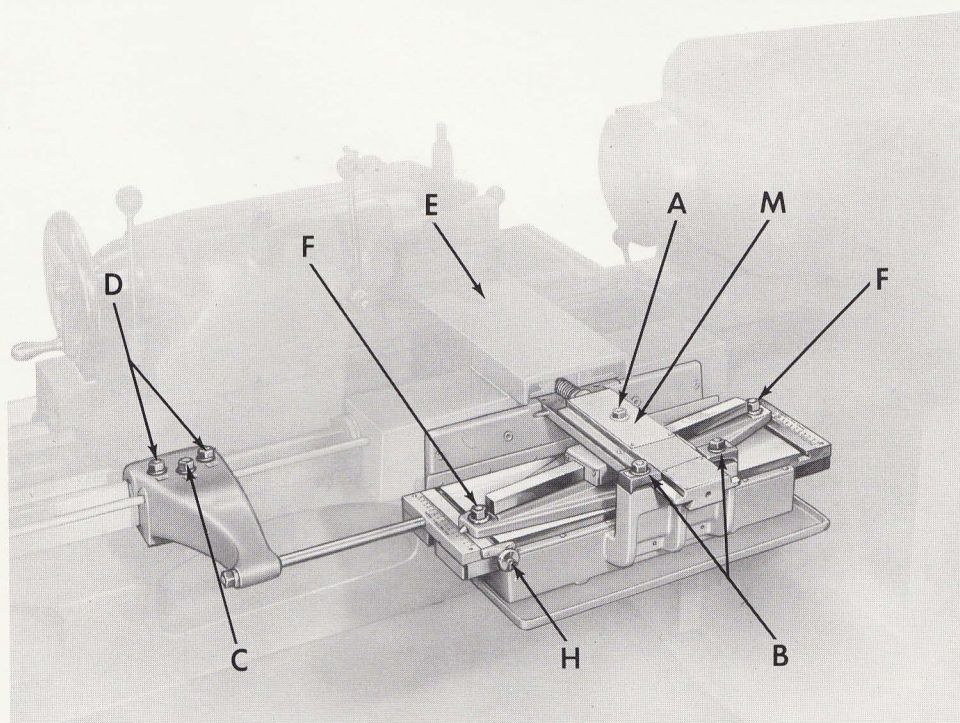

Figure No. 13—View of Plain Bearing Taper Attachment with guards removed
On carriages without taper attachment, when backlash develops because of end play in the anti-friction thrust bearings on the screw, tighten the round nut "A" at the front end of the screw. On carriages with the taper attachment, unscrew the square plate "M", figure No. 13, directly over the back end of the screw, loosen two small set-screws in round nut, and adjust nut until end play is removed.
**TAPER ATTACHMENT**—Either the plain bearing or the ball bearing taper attachment, Figure No. 13 is easily and quickly set up for action. For chasing tapered threads set up for adjustable cross feed control (telescopic type). Loosen draw bar binder nut "C", the two swivel nuts "F" and screw "A", and nuts "B". By means of the knurled knob "H" set swivel to desired taper, either inches per foot at one